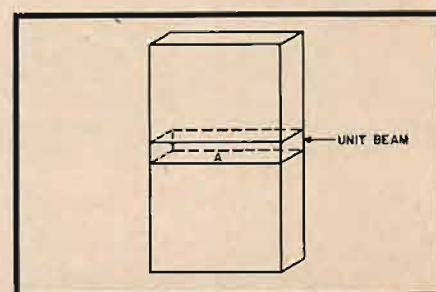

Fig. 2. Typical panel as used in the discussion.
Figure 2 is a diagram of the audio section of the panel. The program material leaves the tape (on an Ampex "400") via a 500-ohm line, goes into the T-pad, through the passive equalizer, to give the proper high-frequency characteristic for microgroove (LP) or standard (78-r.p.m.) recordings, and out into a high-quality 30-watt power amplifier¹. From the output of this amplifier,
For all practical purposes it is reasonably sufficient to consider a panel as made up of an infinite number of small beams arranged side by side as shown in Fig. 2. Notice that in this type of analysis, the beams are represented as extending across the shorter dimension of the panel. Assuming the edges of the panel are supported, it is logical to suppose that the beam exhibiting the most severe deflection when subject to a load, will be one near the center of the panel such as beam A. Now, without attempting to determine an exact coefficient for the stiffness factor, it can be shown that the maximum deflection of beam A is dependent on a few easily determined variables. Actually, since the beams are integral parts of a homogeneous plate, the deflection will be somewhat less than that of a single unattached beam.
THE ACCOMPANYING PHOTOGRAPHS represent the culmination of some seven or eight years of interesting and satisfying work in the hobby of sound reproduction. *Figure 1* shows a radio, turntable, and amplifier cabinet recently completed, the design of which incorporates a few interesting features. The height of the cabinet has been selected to stand even with the arm of a chair in such a manner as to be of maximum convenience to the operation of either the radio or the turntable. The chair which normally stands beside the cabinet has been removed for photographic purposes. A considerable amount of thought has gone into this design in an attempt to overcome what we regard as disadvantages that appear in nearly all other designs of cabinets. Most cabinet designs fall in two general categories: (1), Controls positioned for operators who prefer to lie on the floor; and (2), Controls positioned for people who prefer to stand facing a blank wall. The design shown has all controls at finger tip reach while sitting comfortably in a chair. The cover to the turntable rolls back at finger tip touch. A detail of this operation is shown in *Fig. 2*.
With the controls for the radio tuner at arm level when the user is seated, as indicated in Fig. 2 above, listening can be a pleasure uninterrupted by the need for jumping up and down to change stations or records. The loudspeaker, shown in Fig. 3 below, is located across the room. The cabinet was modified from a standard model.